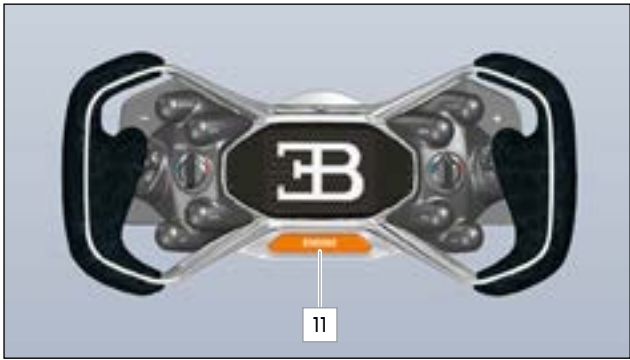

FIG.71 ENGINE BUTTON ON THE STEERING WHEEL
- ▶ Briefly press the ENGINE button **11** [» Fig.71]. However, do not put your foot on the accelerator.
Starting can be terminated by releasing ENGINE button **11** [» Fig.71].